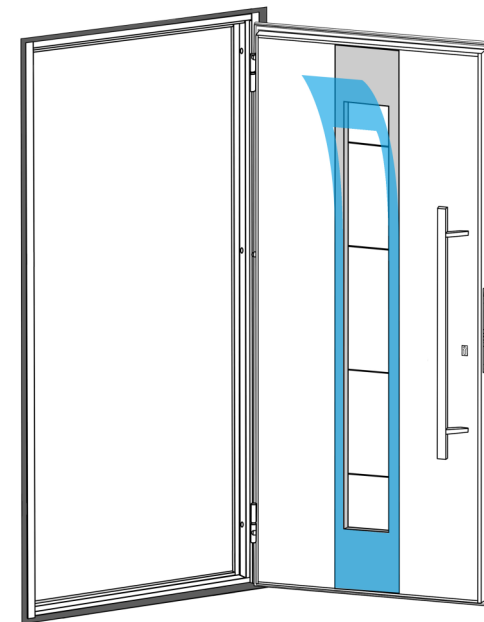

Figure 25
5. Upon completion of installation work, remove protective films from the door (figure 25).